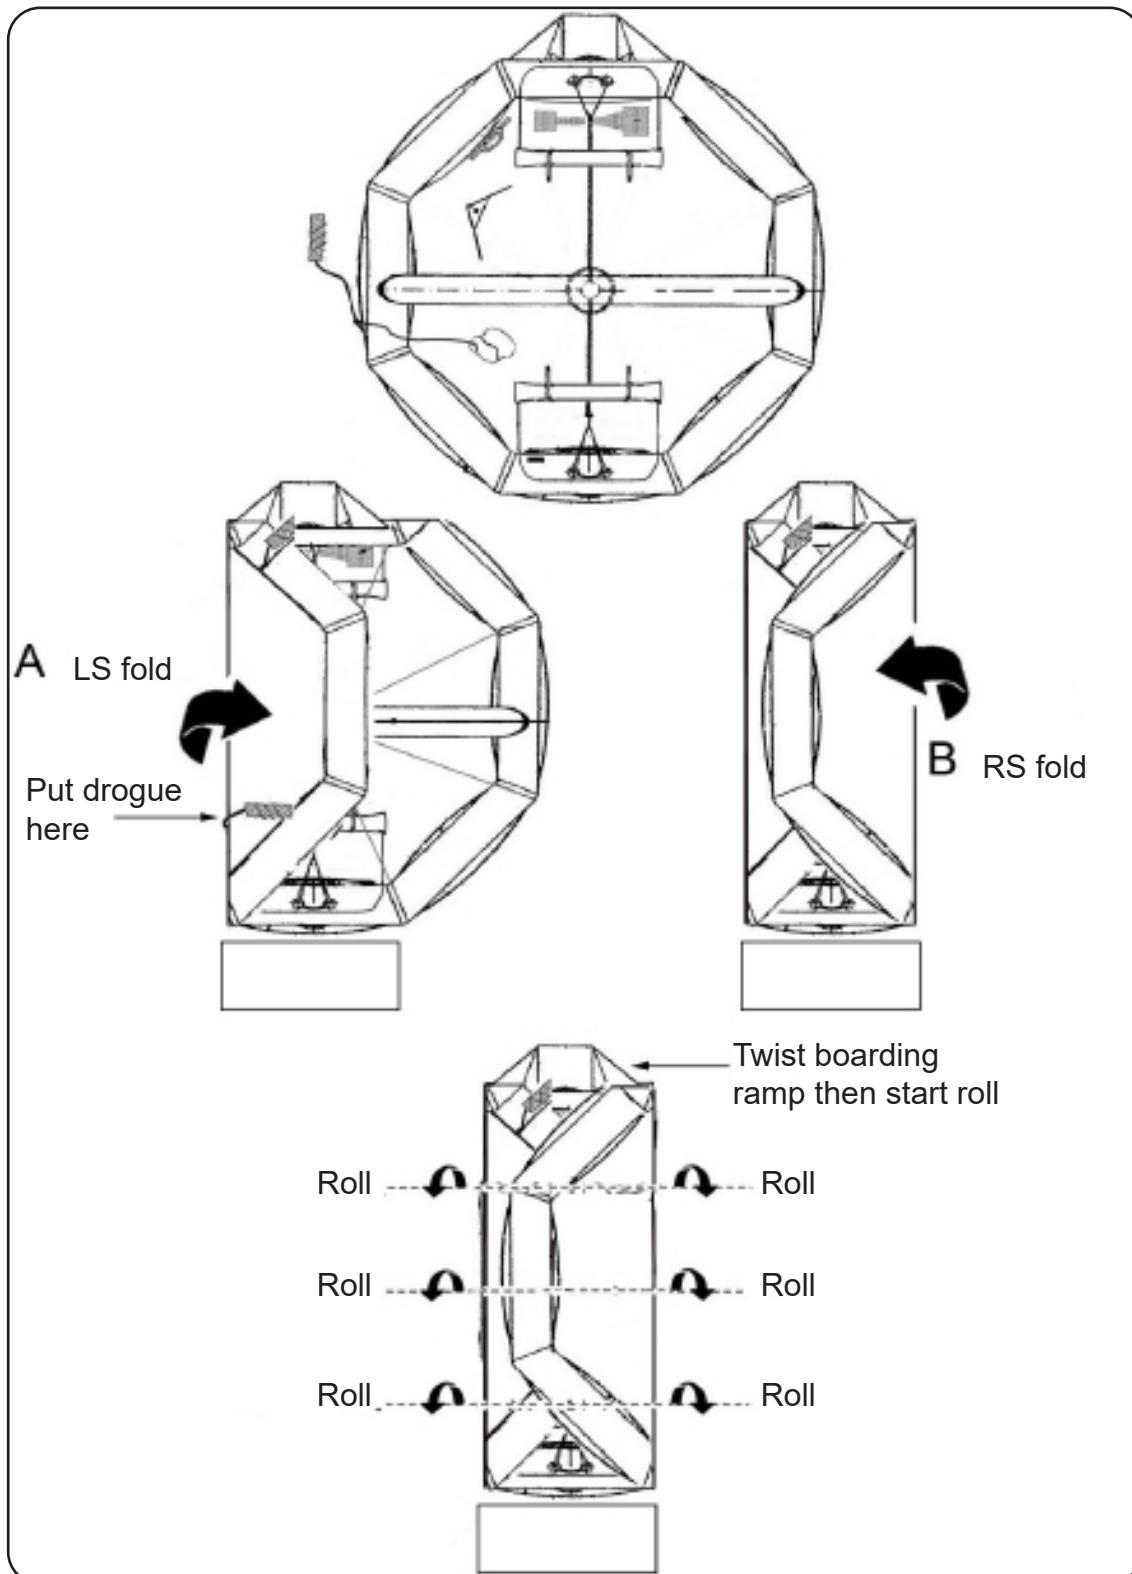

FIGURE 853
- (a) MK 10 container: Refer to FIGURE 853.